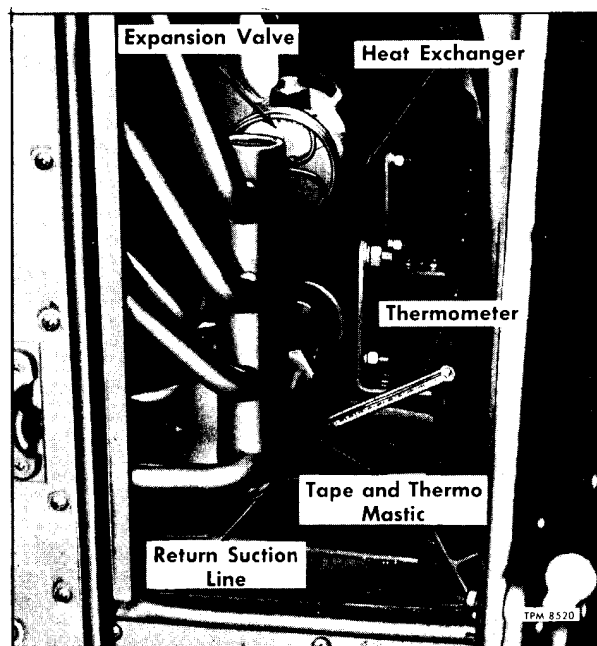

Figure 15—Checking Superheat
1. Apply small quantity of a thermo-type mastic to a remote-reading thermometer and attach to evaporator coil outlet, as shown in figure 15. Thermo-mastic may be available at a local refrigeration service establishment, or it can be obtained from the Alco Valve Company, St. Louis, Missouri. Cover thermostat more than shown.